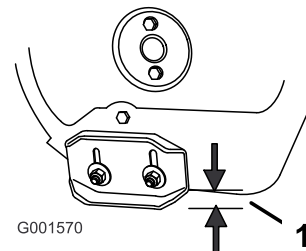

Figure 45
2. Loosen the nuts that secure both skids to the auger sides until the skids slide up and down easily (Figure 45).